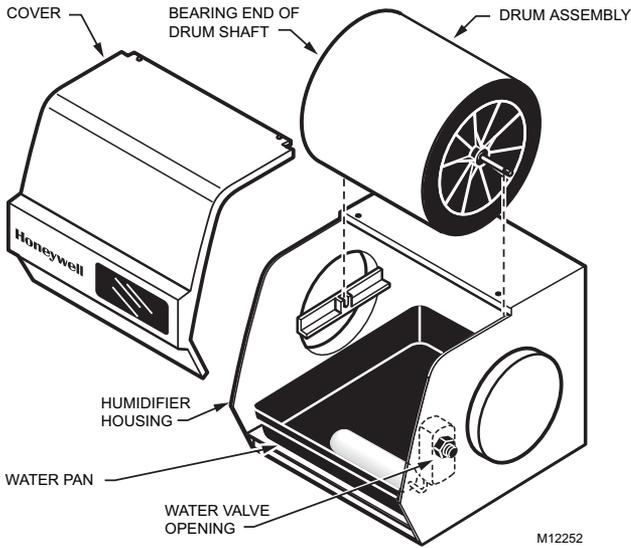

Fig. 1. Removing Drive Assembly
3. Lift up the drum shaft from the bearing end and slide it out of the motor coupling to remove the drum assembly. See Fig. 1.